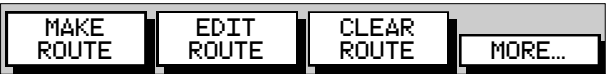

Figure 3-33: Route Soft Keys
- 3. Press the ROUTE soft key; the route soft keys are displayed as shown in Figure 3-33.
The Route soft keys are displayed as shown in *Figure 3-33*: